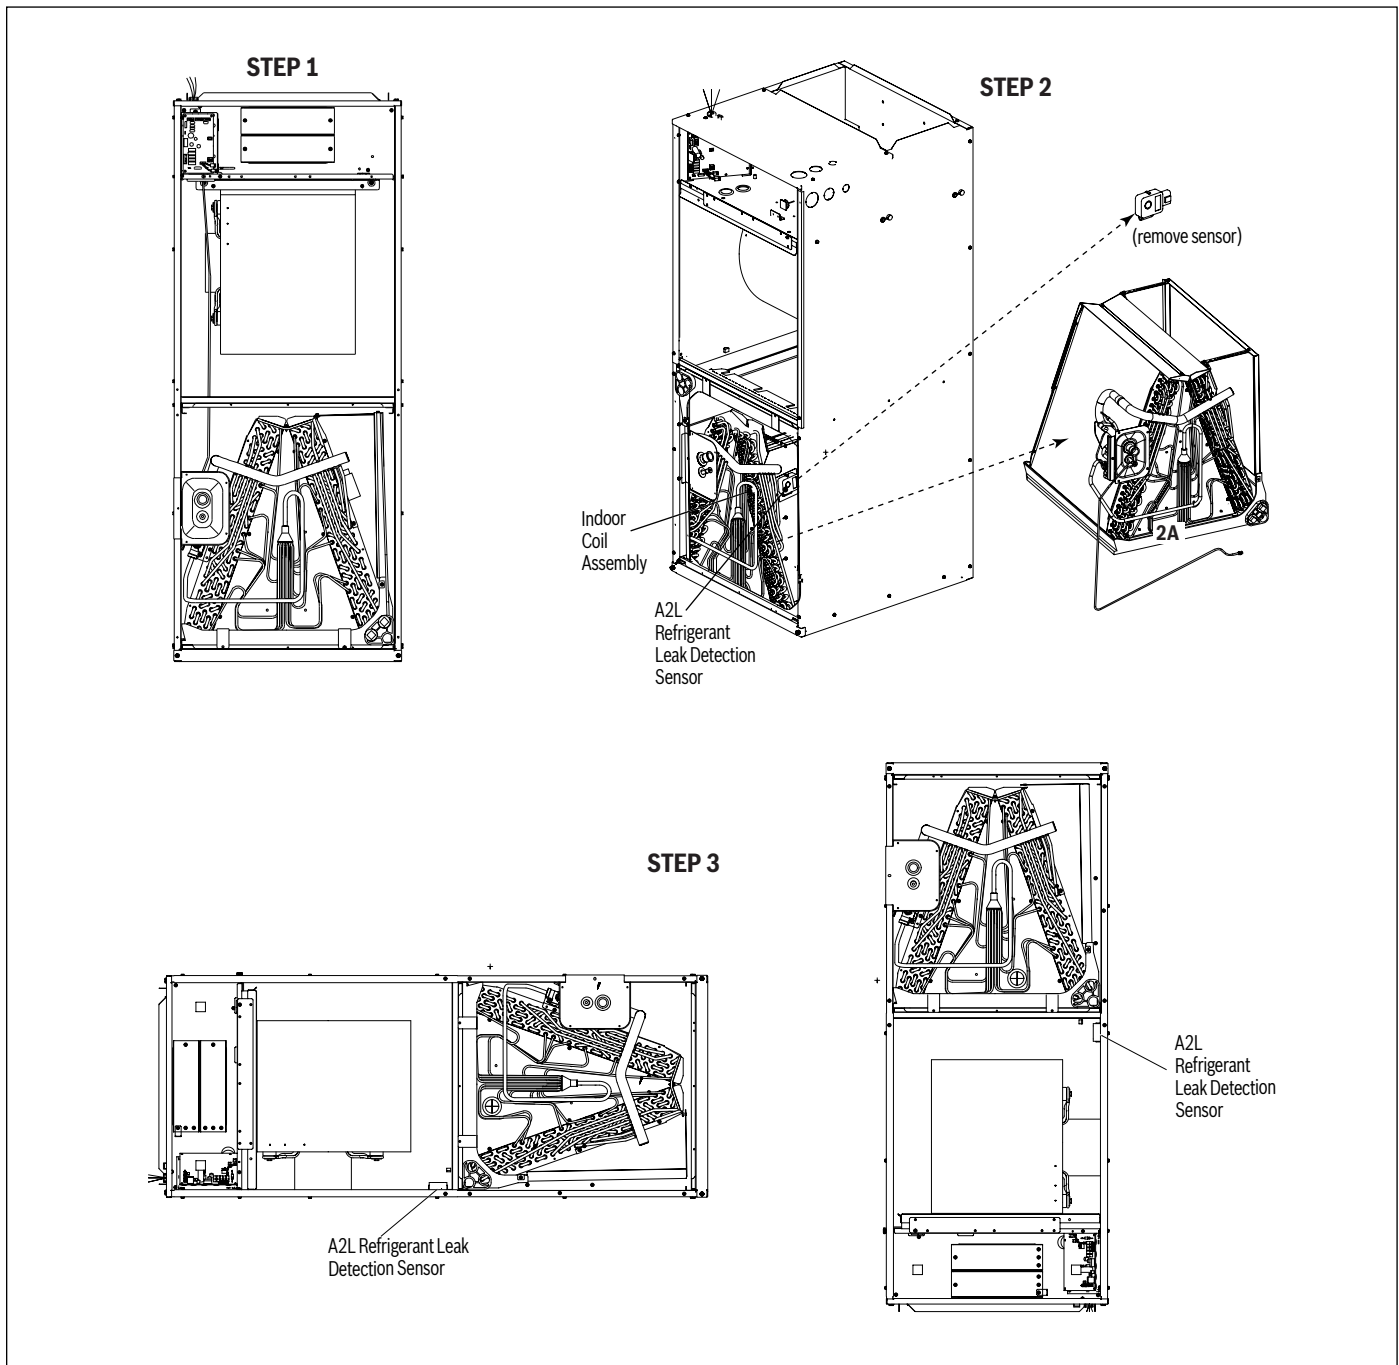

Figure 12 Vertical downflow & horizontal left applications conversion
A vertical upflow unit may be converted to horizontal left by removing indoor coil assembly and the refrigerant leak detection sensor. Reinstall the indoor coil and the refrigerant sensor for left hand air supply. See Figure 12 and 13.
- Reinstall the indoor coil 180° from original position. Ensure the retaining channel is fully engaged with the coil rail. See Figures 12 and 13.
1. Remove the screws and front panel (Figure 12, Step 1).
2. Remove the A2L refrigerant sensor from the coil (Figure 12, Step 2).
3. Reinstall the A2L refrigerant sensor at the position shown below. (Figure 12, Step 3).